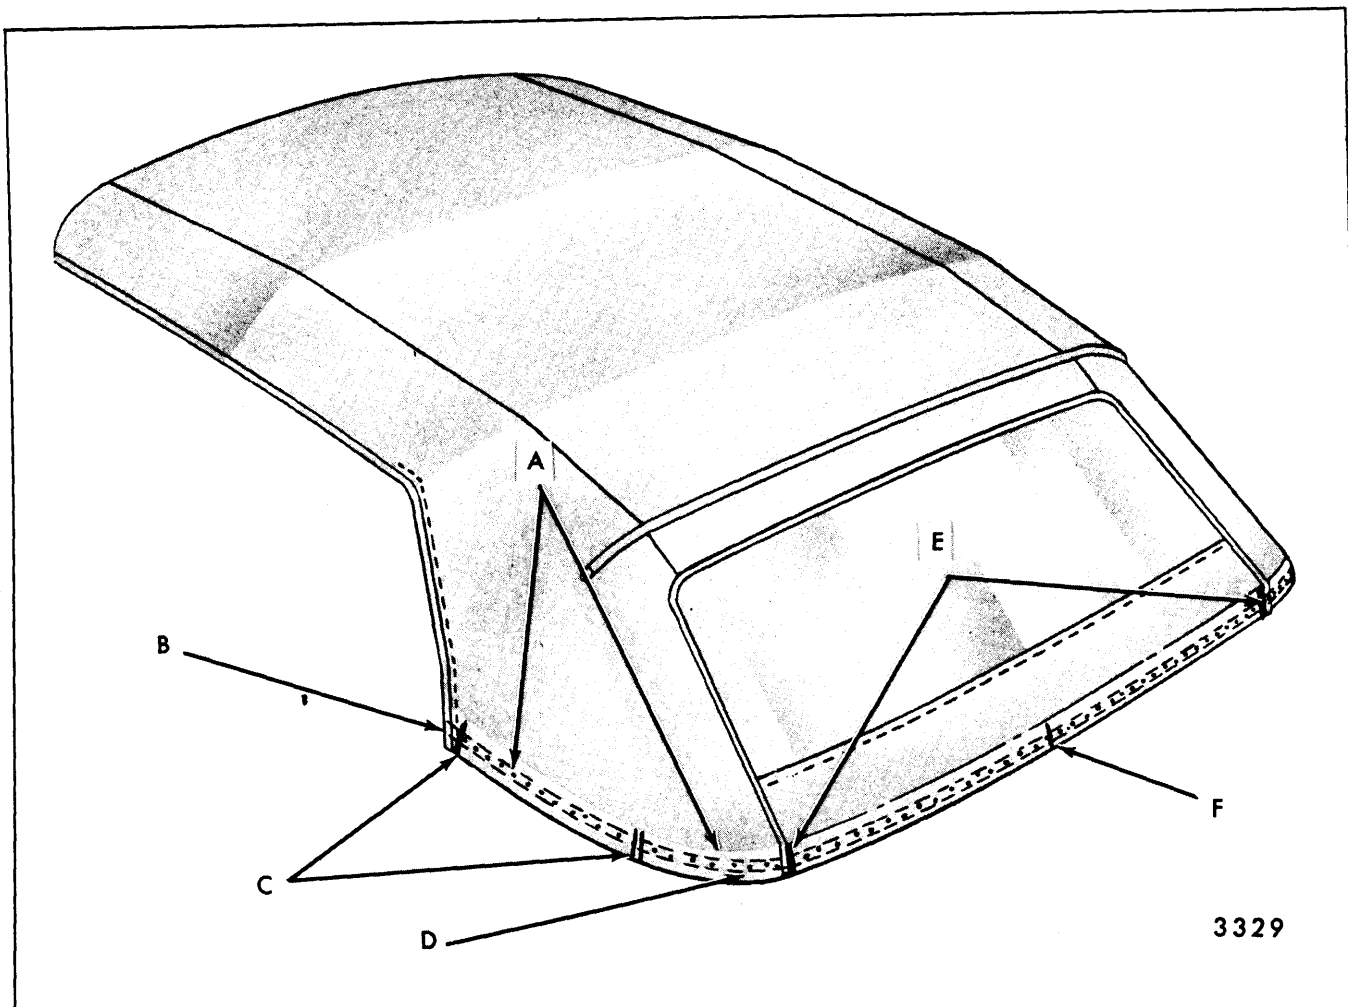

Fig. 13-1—Reference Marks on Top Cover and Back Curtain
2. Mark position of top cover vertical edges on back curtain valance at rear belt line. Use sharpened grease pencil (Fig. 13-1).
Using a suitably sharp pencil, accurately mark location of complete rear trimstick(s) (upper and lower edges and ends) on outer surface of top cover and on back curtain. Re-check, and mark right and left inner vertical edge of top cover on back curtain at trim stick (Fig. 13-1). Make center mark on curtain at "V" notch on trimstick.